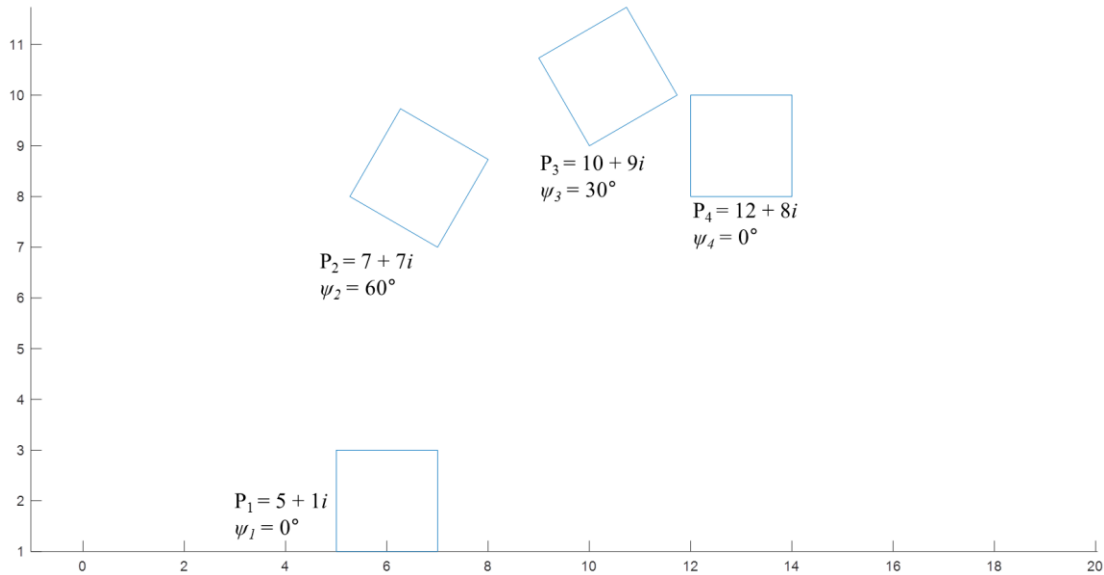

Figure 1. Definition of Precision Points for Motion Generation
- Design a mechanism that will move the box as shown in Fig. 1. Use the partially written Matlab file MSE\_211\_Lab\_2\_motion\_generation.m